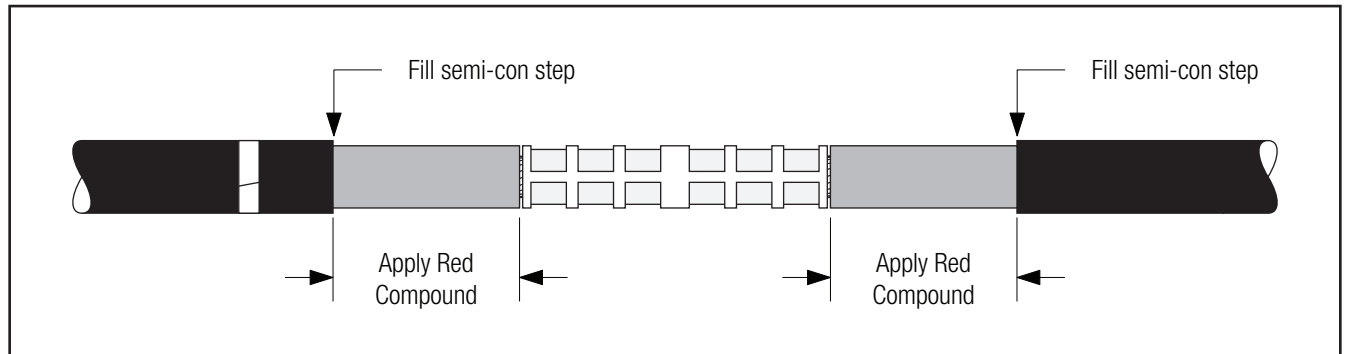

Figure 15
4.4 Apply red compound on cable insulations, making certain to fill in edge of cable semi-con. **Do not use silicone grease** (Figure 15).